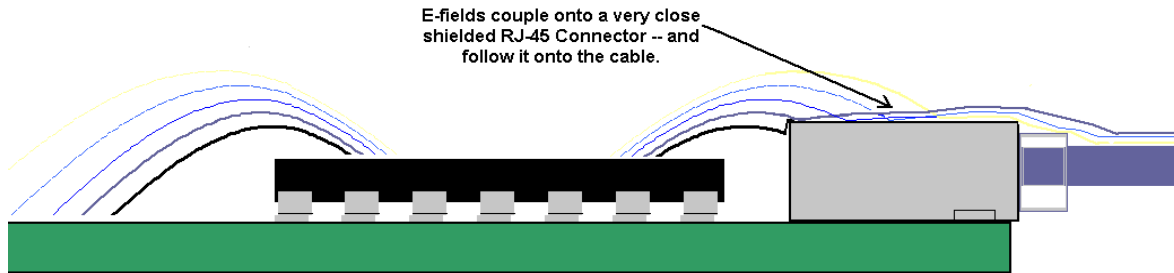
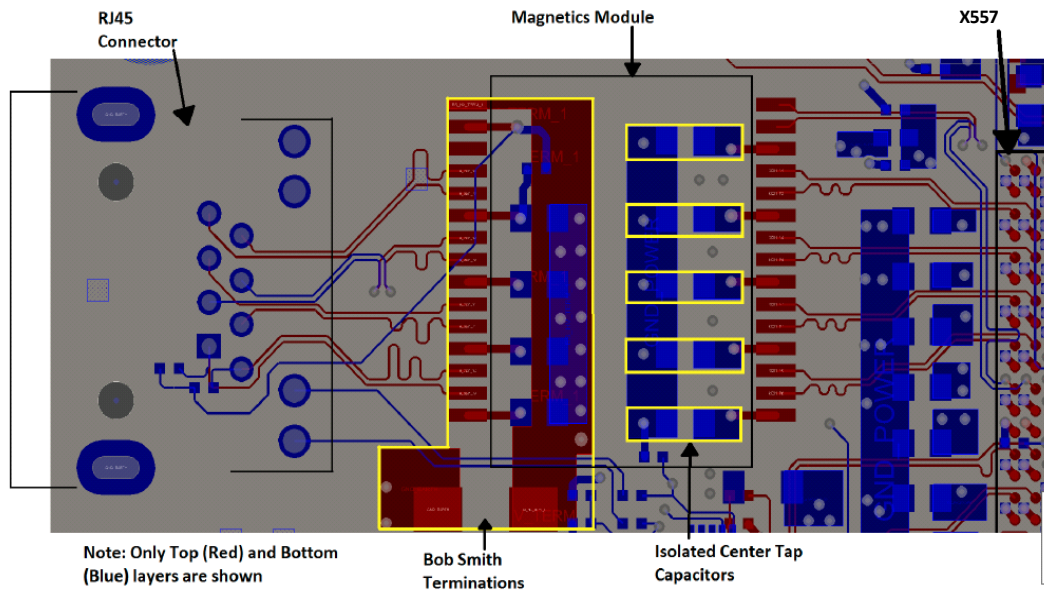

Figure 9-2 Effect of Device Placed Less Than One Inch from the RJ-45 Connector
Figure 9-3 Transformer Bypass Components
The X557, referred as a LAN silicon in Figure 9-3 and Figure 9-2, must be at least one inch from the I/O back panel. To help reduce EMI, the following recommendations should be followed:
The associated grounding scheme (blue) with the front-end of the chip is shown in the microstrip traces between the transformer and the RJ-45 (see Figure 9-3).
1. The ground is split underneath the magnetics, with the chassis ground being present under the front-end (Figure 9-3), and the circuit ground under the X557 side of the magnetics. Thus, the MDI traces on the line side are referenced to chassis ground.
- In Figure 9-3, the Hi-POT clearance for cable discharge is shown and designed with ≥ 80 mils of clearance from the ground. Note that the breakdown voltage in FR-4 is lowest in the x-y axes planar to the PCB and highest in the z-axis between layers.